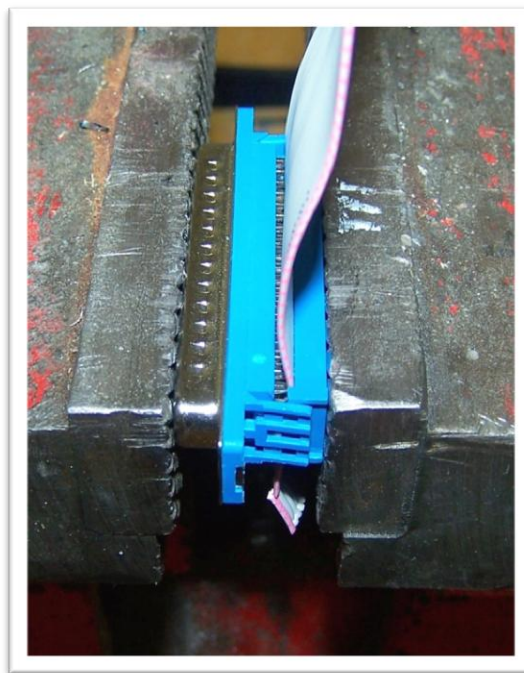

Figure 10: Connector assembly in the vice.
- 4) Put connector backing back over cable and, using your fingers, gently press the cable on to the pins, and secure the assembly in the vice, Figure 10.